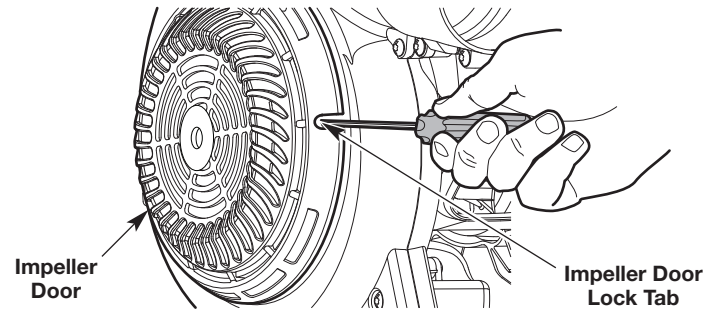

Fig. 4
2. Insert a flat-head screwdriver into the hole in the impeller door and press the impeller door lock tab inward (Fig. 4). Open the impeller door.